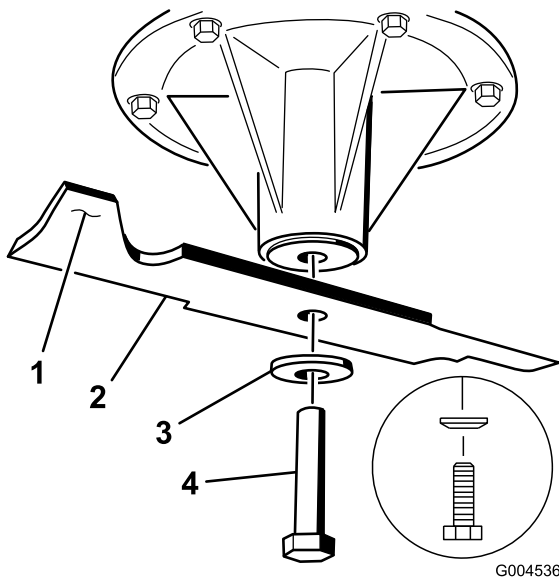
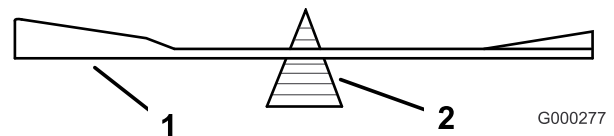

Figure 99
Figure 101
2. Remove the blade bolt, curved washer, and blade from the spindle shaft (Figure 99).
2. Check the balance of the blade by putting it on a blade balancer (Figure 101). If the blade stays in a horizontal position, the blade is balanced and can be used. If the blade is not balanced, file some metal off the end of the sail area only (Figure 99). Repeat this procedure until the blade is balanced.